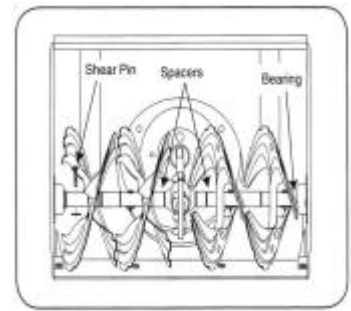

Figure 26
- The auger are secured to the spiral shaft with two shear pins and cotter pins. If the auger should strike a foreign object or ice jam, the snow thrower is designed so that the pins may shear. See Figure 26.